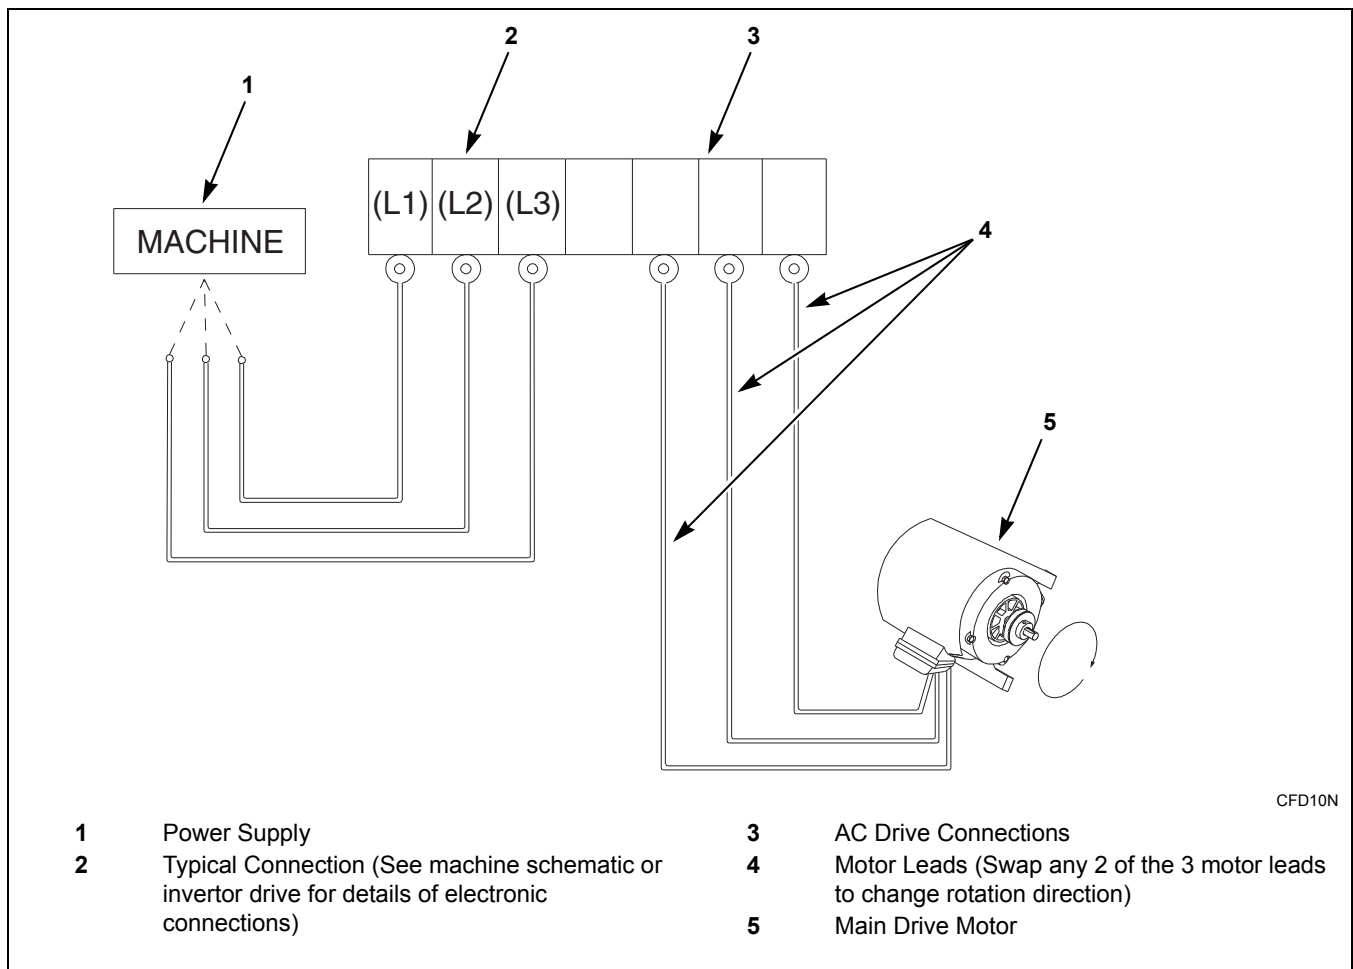

Figure 21
8. Cylinder rotation must be clockwise in an extract step for all models. If rotation is not correct, disconnect power. A qualified electrician must reverse any two motor leads between the AC drive and the main drive motor. Refer to *Figure 21*.